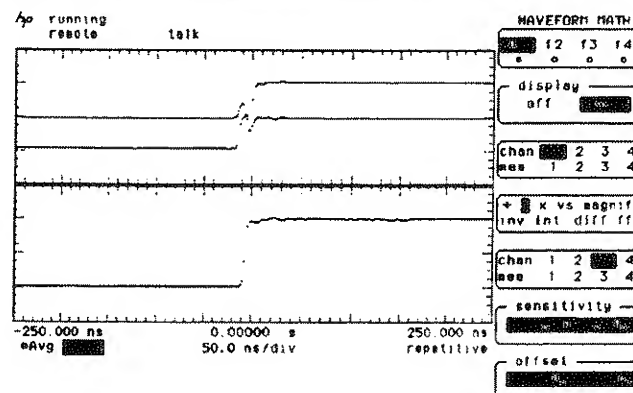

Figure 9-6. Channel 1 Minus Channel 2 (or 3)
- Press **TIME BASE** and set the horizontal display to 50.0 ns/div (see Figure 9-6). This display is best viewed when the oscilloscope is in **repetitive acquisition mode**.